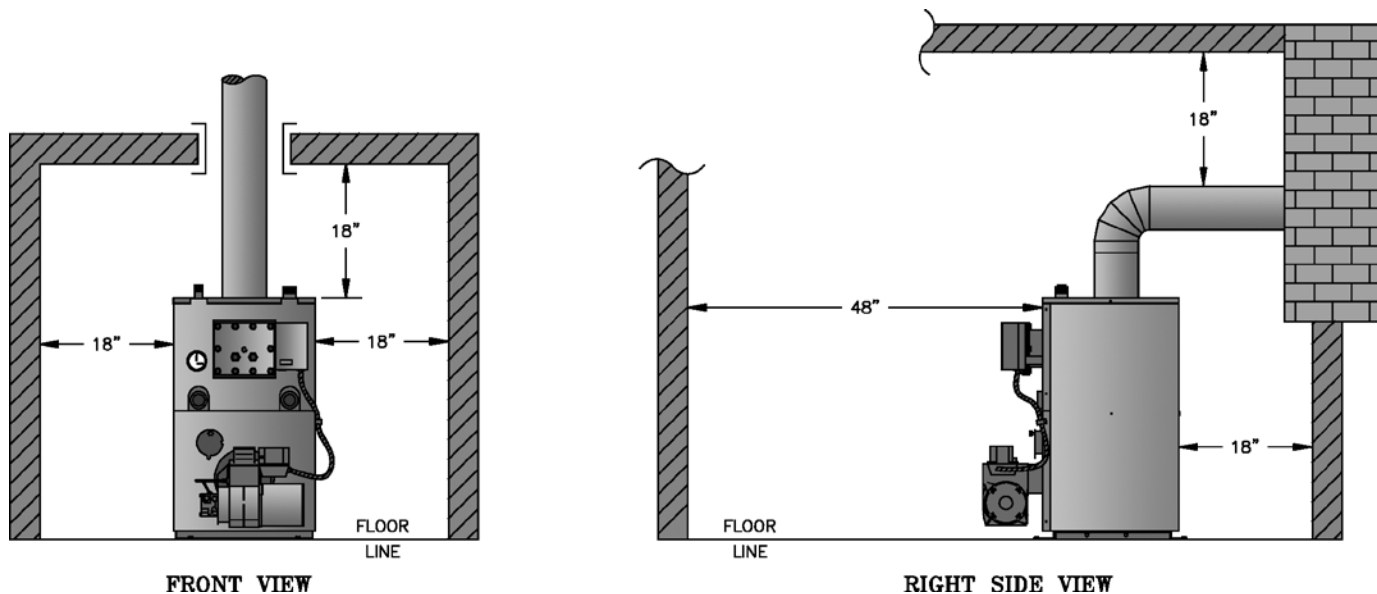

Figure 2: Minimum Clearances to Combustible Materials
For minimum clearances to combustibles materials. See Figure 2.
- 4) Set boiler squarely on top of shield such that base plate of boiler rests flat on top surface of shield and does not over-hang shield on any side. Confirm clearance to combustible walls. Refer to Figure 2.
- 5) Do not enclose boiler (including shield) on all four sides. Boiler may be enclosed on any three sides while maintaining minimum clearances shown in Figure 2 for each of those three sides.